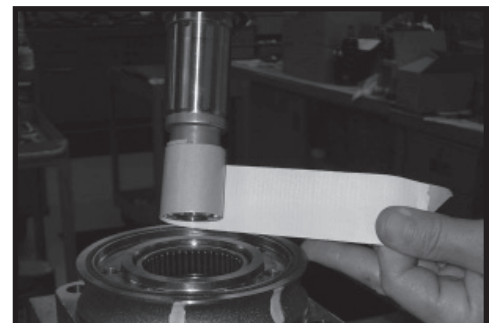

Figure 46
Apply masking tape to shaft 7. Apply masking tape around splines or keyway on shaft (12) to prevent damage to seal. SEE FIGURE 46.